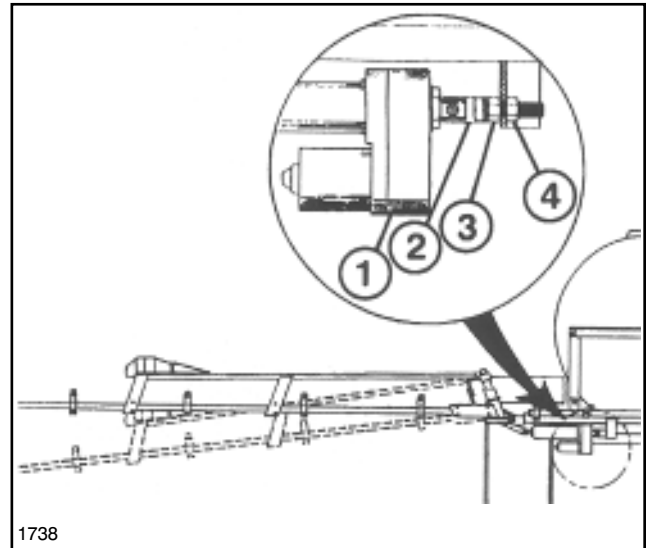

FIG. 5
1. Tighten the adjustable clevis jam nut as close against the clevis as far as it will go. See FIG. 5.